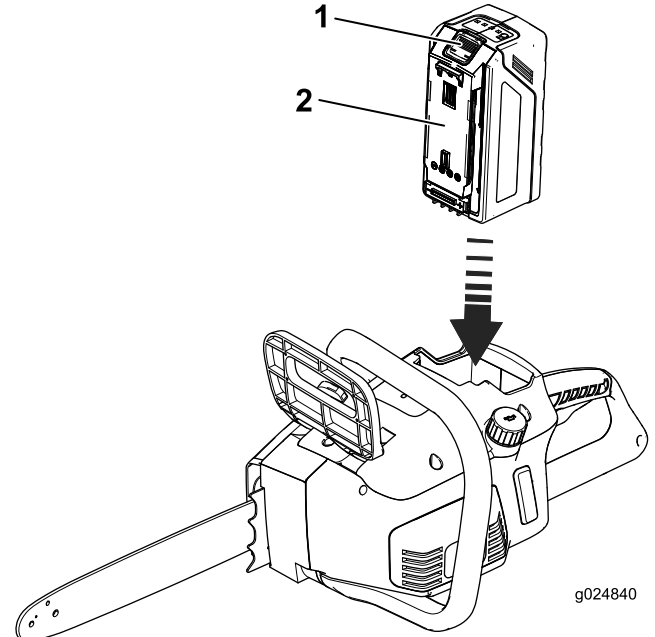

Figure 5
2. Align the tongue of the battery pack with the battery cavity in the chain saw (Figure 5).